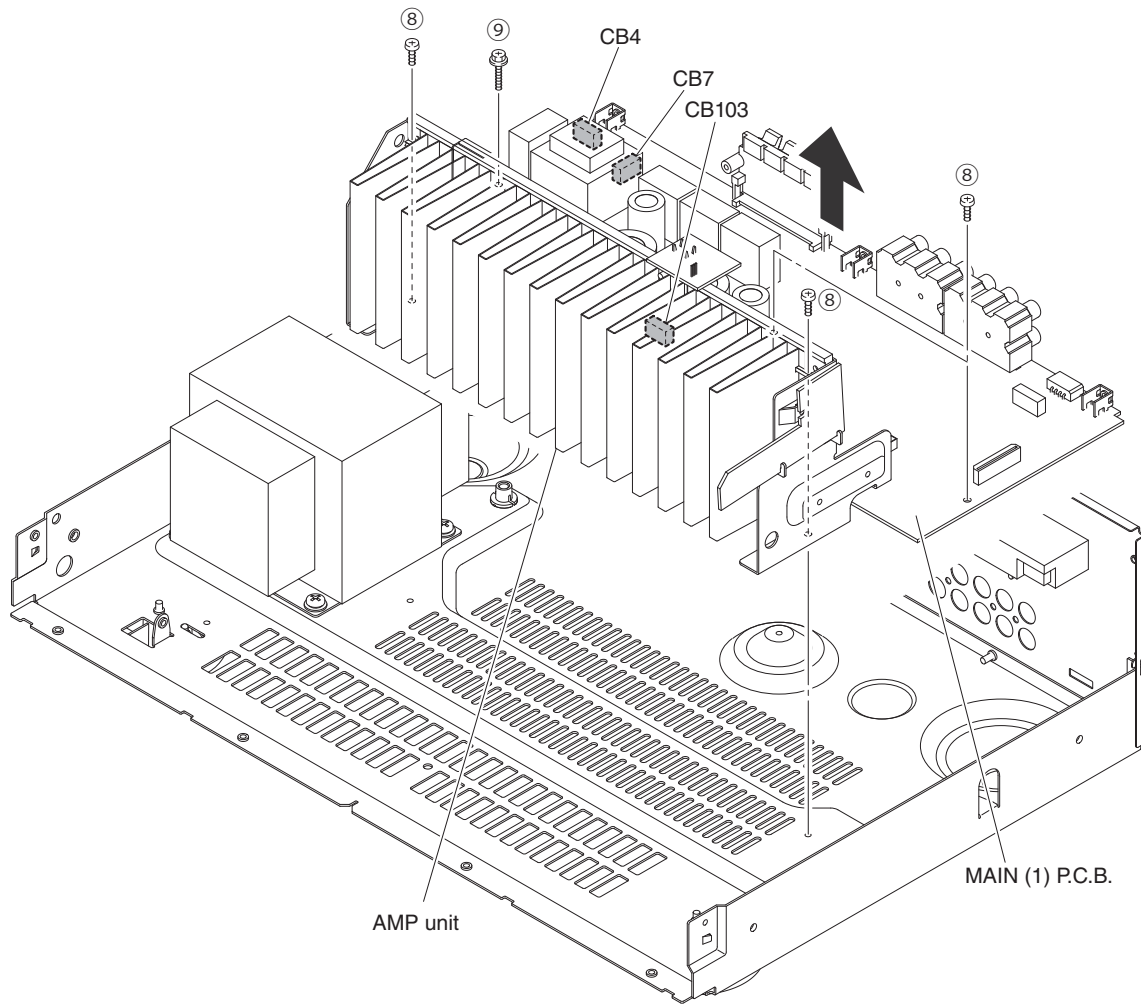

Fig. 2
- b. Remove 4 screws (⑧) and screw (⑨). (Fig. 2)
- c. Remove CB4, CB7 and CB103. (Fig. 2)
- d. Remove the AMP unit. (Fig. 2)